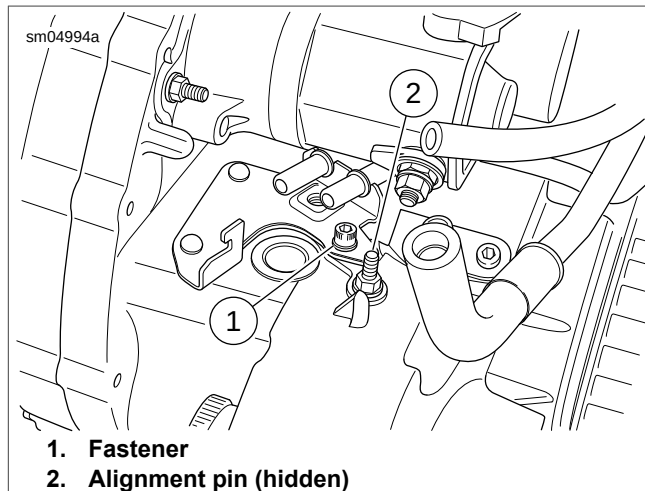
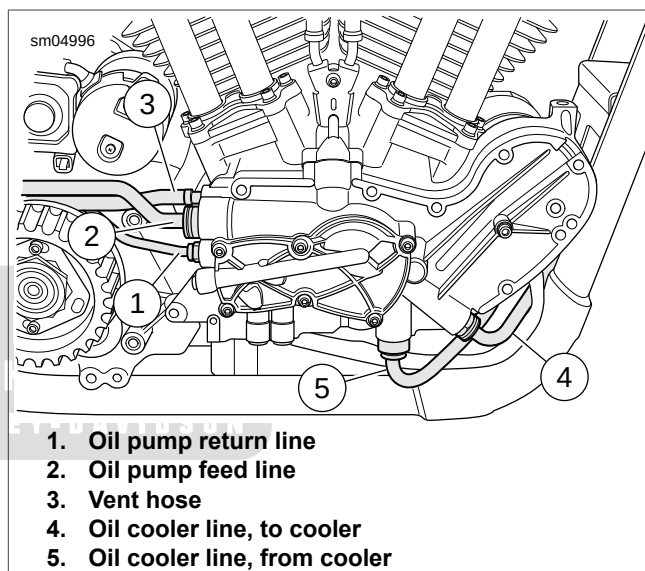
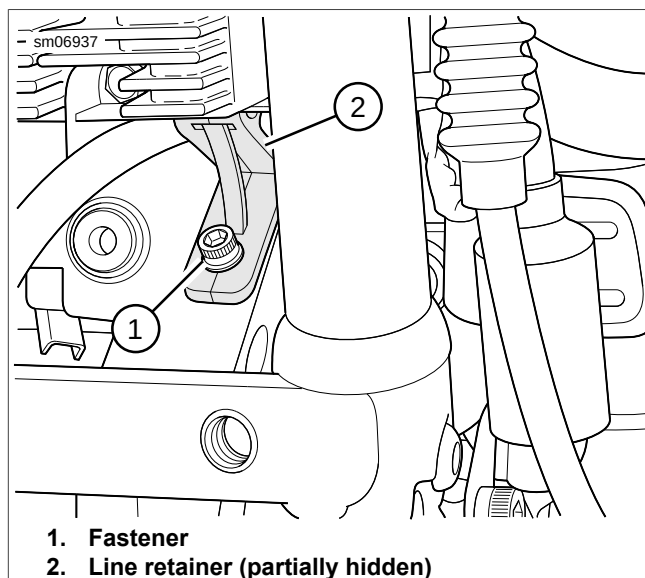

Figure 3-34. Rigid Oil Line Retainer
Figure 3-35. Oil Pump Lines
Figure 3-36. Oil Cooler Line Retainer
- a. See Figure 3-34. Remove fastener (1).
- b. Raise retainer until alignment pin (2) is clear of bore in crankcase.
3. See Figure 3-35. Remove return oil line (1) from gearcase cover using OIL LINE REMOVER, 3/8 INCH (Part No. HD-49096).
5. Remove feed oil line (2) from gearcase cover using OIL LINE REMOVER, 1/2 INCH (Part No. HD-46503).
6. Disconnect vent hose (3) from fitting on oil pump.
7. See Figure 3-36. Remove locknut (1) and washer. Remove oil cooler line retainer (2) from lines.
8. See Figure 3-35. Release each oil cooler line (4, 5) from bottom of gearcase cover using OIL LINE REMOVER, 1/2 INCH (Part No. HD-46503).
- 3. See Figure 3-35. Connect oil cooler lines (4, 5) to lower gearcase cover. Verify each is securely held by the retainer clip.
- 4. See Figure 3-36. Install oil cooler line retainer (2) and tighten fastener (1) securely.
- 5. See Figure 3-35. If removed, place return line (1) on engine and install starter. See 6.10 STARTER.
- 6. Connect vent (3), feed oil (2) and return oil (1) lines to oil pump body and cam support. Verify each is securely held by the retainer clip.
- a. See Figure 3-34. Roll retainer under rigid lines at rear of crankcase.
- b. Orient alignment pin (2) to bore in case.
- d. Secure with screw (1).